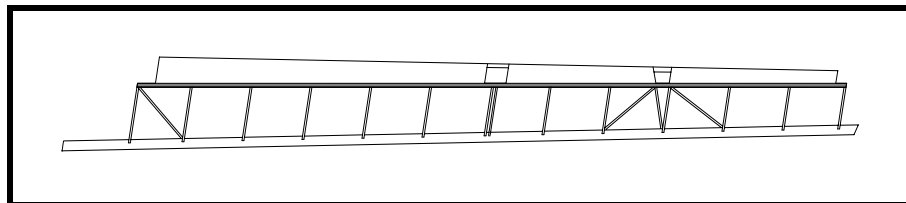

Figure 26
- ❑ Scarf the upper leading edge skin for the trailing edge skin. See Figure 26.